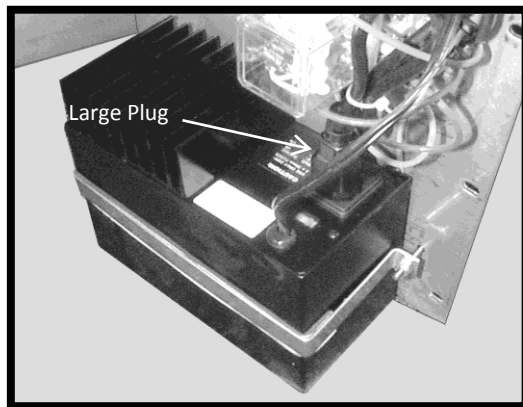

Figure 9: Battery Charger
4. Remove the large plug from the battery charger (Figure 9).